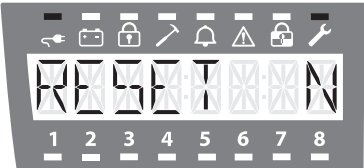

fig. 29
- Default Programming Restoration Procedure - Disabled (fig. 29).